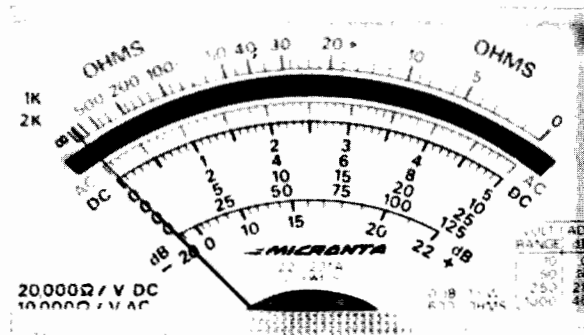

Fig. 3-1-2
10. If range switch is set to 25 V position and actual value of battery is 10 V, indicate where hand would appear on meter scale of Fig. 3-1-2.
12. A voltage reading of 6 V appears across lamp. If dc range switch is in 10 V position, indicate hand deflection on meter scale of Fig. 3-1-2.
14. A voltage reading of 4 V appears across resistor. Indicate this value on 5 V meter scale shown in Fig. 3-1-2.
to have some direct reading scale ranges and some factored ranges. A direct reading scale corresponds to a specific meter range setting. The 5, 10, 25, and 125 scales of Fig. 3-1-2 are examples of direct reading scales. Factored scales include the 500 and 1000 scales. Multiplication or division factors are used to change scale ranges. Changing 5 to 500 is achieved by multiplying the scale 5 reading by 100. Two zeros added to the scale reading easily accomplish this operation. Changing 10 to 1000 is similarly accomplished.